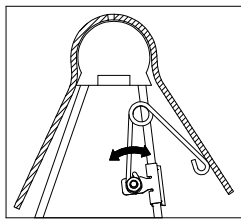

Figure F2: Cutaway view of driver side pivot arm and saddle.
2. **Set coupler angle.** Adjust the resting angle of your coupler plate by rotating the spring on the driver side pivot arm. Pulling the top of the spring away from the the spring away from the cab will increase the angle of the coupler plate. Set the angle of the coupler so that it will tilt away from the cab when coupling, see Figure F2. Tighten the 1/4" nut once the spring's orientation is set.